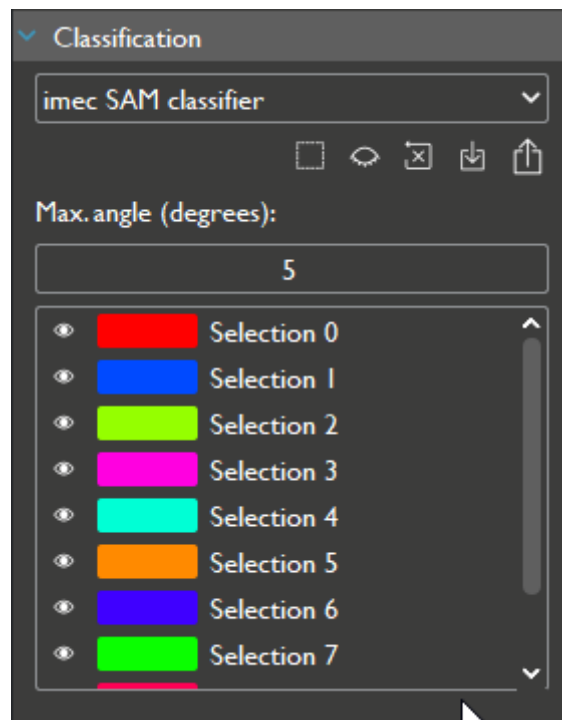

Figure 93. View of the classification panel when “imec SAM classifier” is selected
Step 2 - Select “*imec SAM classifier*” using the pull-down menu (see Figure 93).
Step 3 - If needed, adjust the classifier parameter “*Max. angle degrees*” (see Figure 93). The default value for this parameter is 5.
All the selections used for training the classifier will also be listed in the classification panel (see Figure 93).